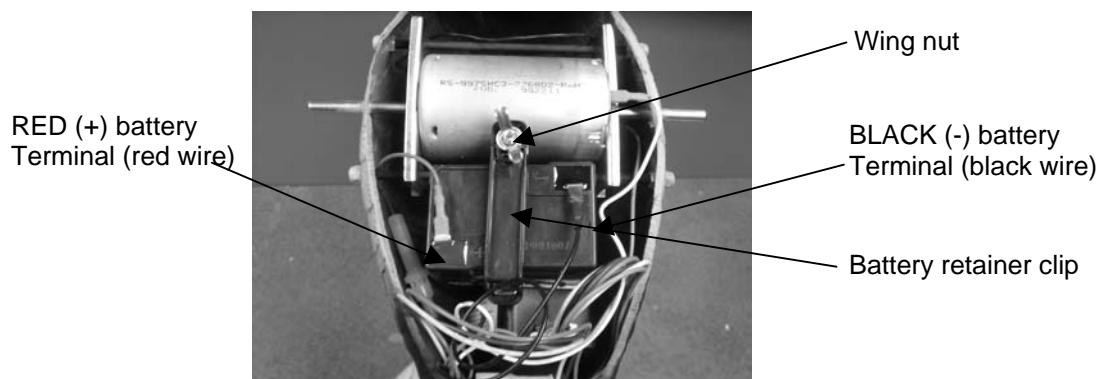

Figure 2
- 5) Remove the wing nut from the battery retainer clip found directly behind the motor inside the decoy body and insert the 6V battery as shown in Figure 2 below. Replace the battery retainer clip and wing nut and hook up the Red wire (with fuse) to the RED (Positive) battery terminal and the BLACK(Negative) battery terminal.